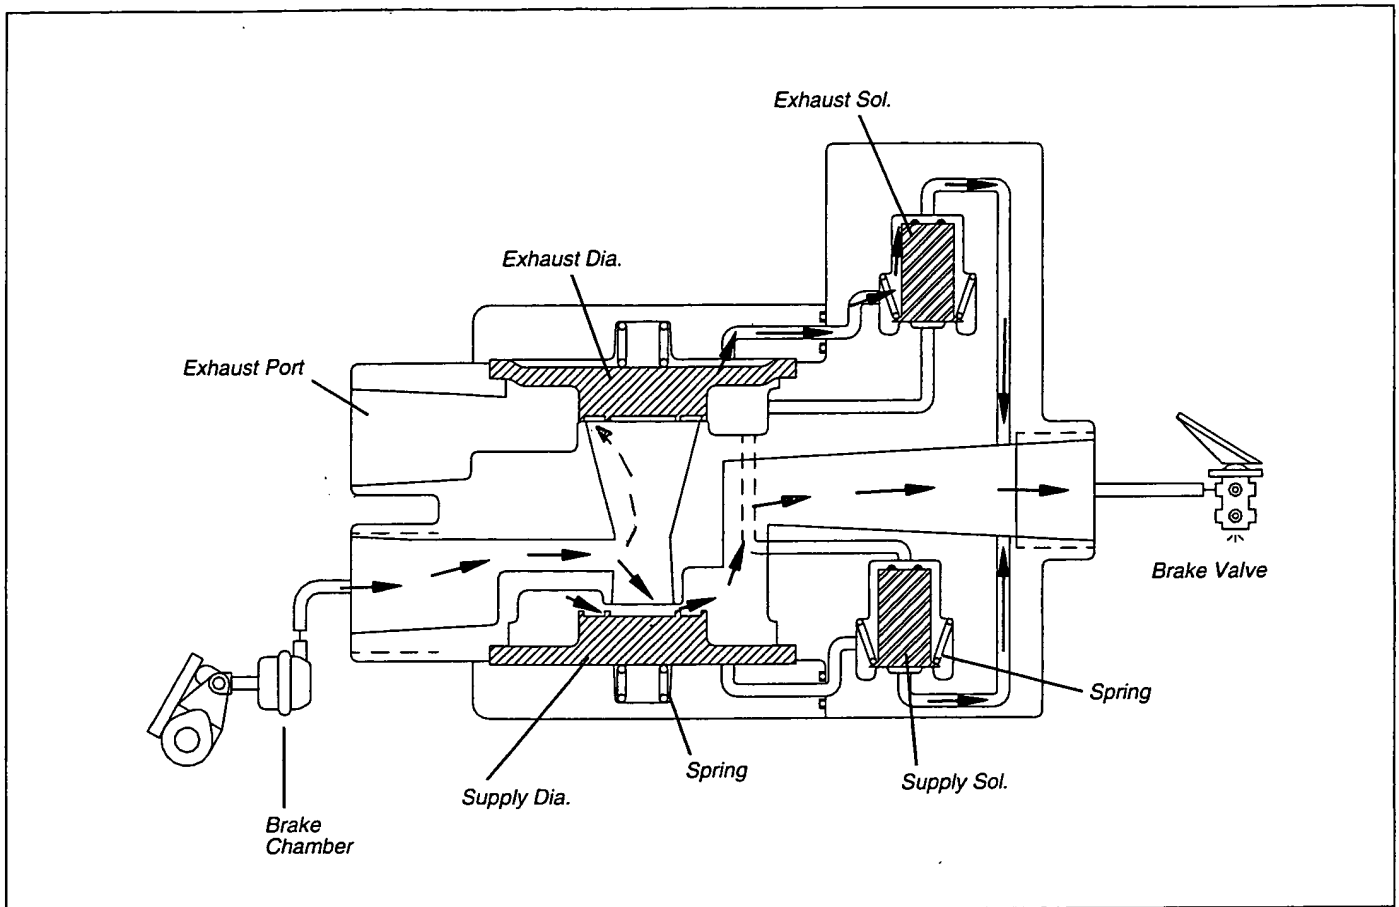

FIGURE 5 M-21,M-22 NON-ANTILOCK EXHAUST (NORMAL)
**Normal Exhaust (Figure 5)** - During a normal, relatively "slow", brake release, air moves back through the modulator in the reverse direction as it flowed during application. The internal components of the modulator will remain in the same position as they assumed during application until air pressure decreases to approximately one half psi, at which time the supply diaphragm will seat on the supply passage. Air will generally not be expelled from the modulator exhaust port during normal brake release.